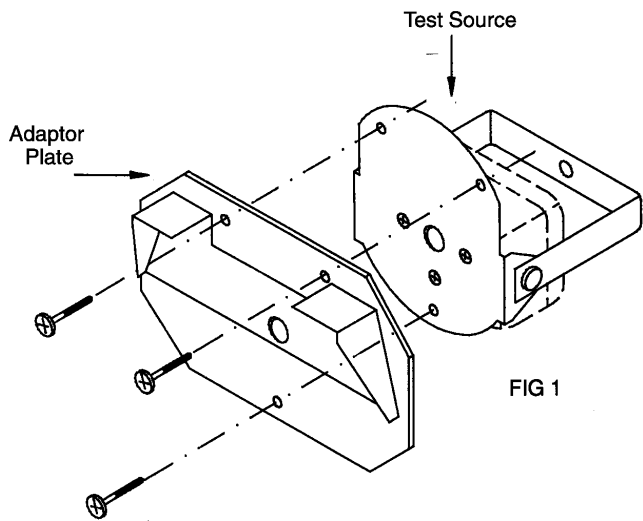

FIG 1
1. Fit the appropriate adaptor to the front of the unit. Fig. 1